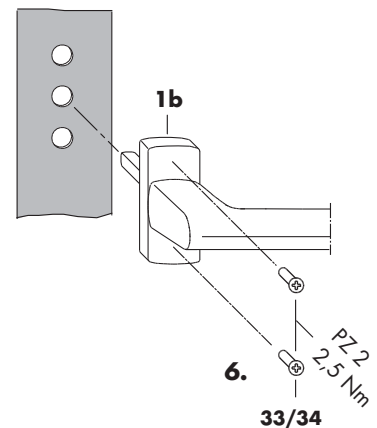

Fig. 4
6. Screw on window handle (item **1b**) using countersunk screws M5 x 35 (item **33/34**) (PZ 2, torque 2.5 ± 0.25 Nm) (fig. 4).